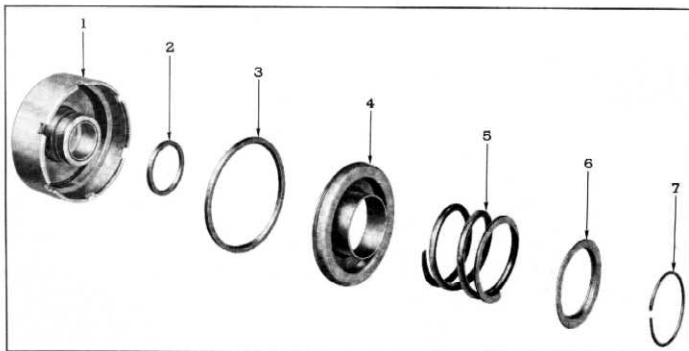

Fig. 91—Layout of Clutch Drum Assembly
- Figure 91 shows layout of clutch drum assembly.